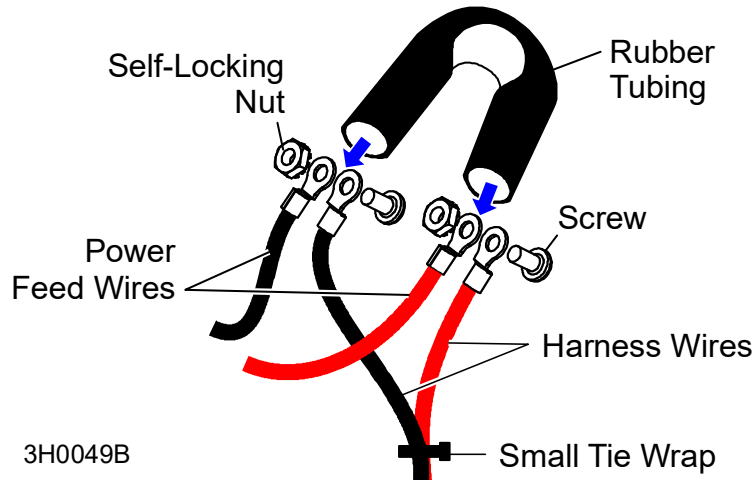

FIG. 1-8
See Figure 1-8. To connect, bundle the two harness wires together with the small tie wrap. Connect the blue power feed wire to the red harness wire with a screw and a self-locking nut. Connect the green power feed wire to the black harness wire with a screw and a self-locking nut. Slip one end of the rubber tube around each wire/harness connection. Secure the tubing around the connections with the large tie wrap.
13. Slip the supplied rubber tube around both wire/harness connections as shown. **See Figure 1-8.**